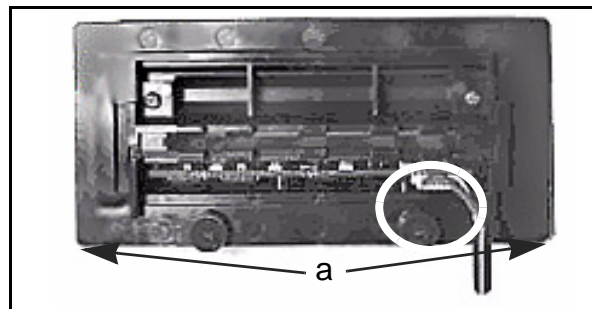

Figure 5 3-wire Connector Attachment
5. Attach the new 3-wire bezel connector to the back of the new SENTRY™ bezel circuit board (See Figure 5).
6. Align the two edge slides (See Figure 5 a) on the sides of the new SENTRY™ bezel to their mating slots in the Bill Acceptor's frame and carefully push the bezel down firmly onto the front of the transport in the two mating slots. Ensure that the cable from the rear connector is not pinched behind the left screw channel when sliding the bezel into place.